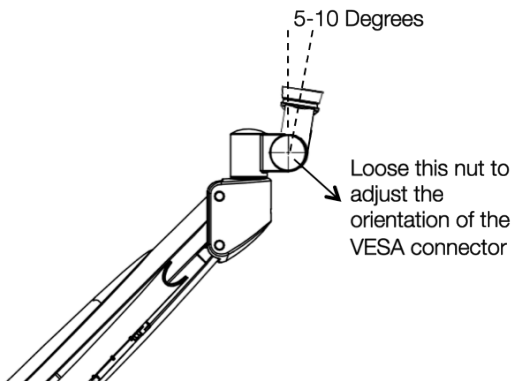

Figure 4 – Adjust the orientation of the VESA connector
3. **Adjust the orientation of the VESA connector** as shown in Figure 4. To do it, loosen the nut with the tool provided with the device, change the orientation to be between 5 and 10 degrees as shown in Figure 4 and then tighten the nut again.